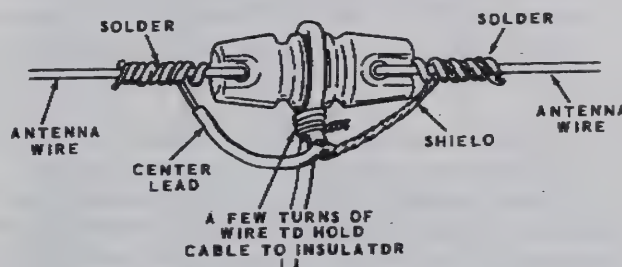

Figure 8
5. Fasten the prepared end of the cable to the center insulator (for support). Then solder the center lead of the cable to the antenna on one side of the insulator. Solder the shield to the antenna on the other side of the insulator. Refer to Figure 8.